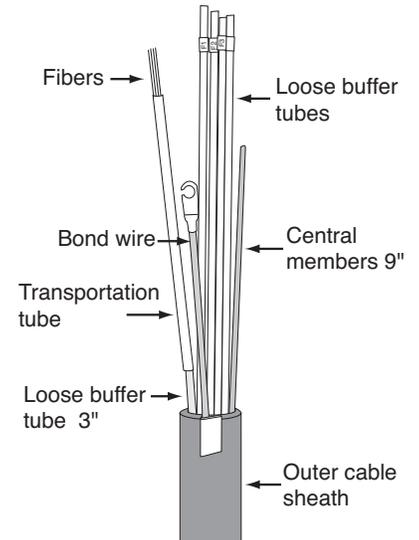

Figure 5
7. Carefully ring cut and remove all but three inches of each buffer tube. Clean the remaining buffer tubes, exposed fibers, strength member, and 6" of the cable sheath with a cloth and company-approved cleaning solution. (Figure 5)